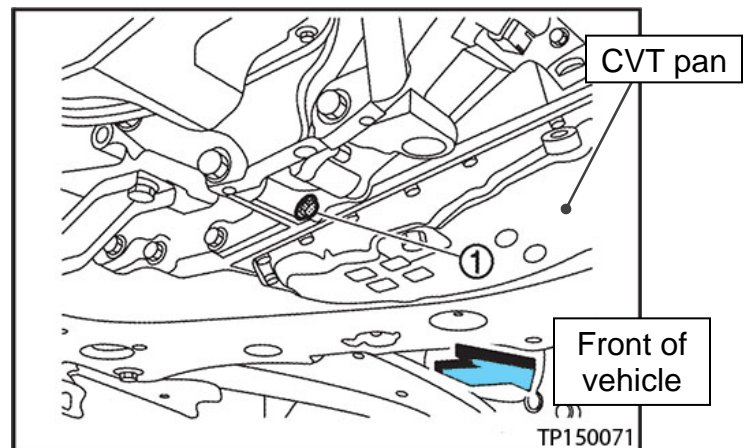

Figure 1
6. Raise the vehicle, and then remove the overflow plug (see Figure 1, # 1).